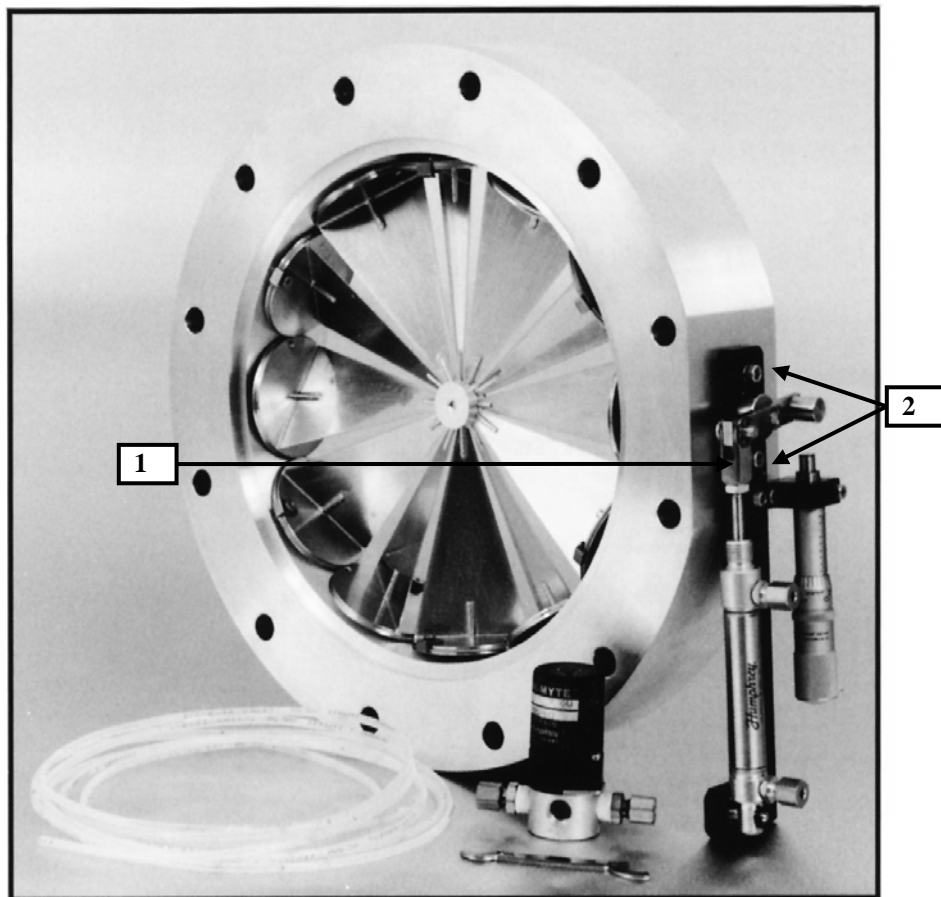

Figure 7
1. Remove motor assembly or pneumatic actuator assembly from driver shaft. Refer to Figure 6 or Figure 7 respectively.
2. Remove both driver cable clamps (1) and all pulley clamps.
3. Carefully unlace or pull out stainless steel cable (2).
4. Unscrew and remove split central hub (3).
Refer to drawing Figure 7. Note that when the pneumatic piston is all the way in, the vanes are in the fully open position.